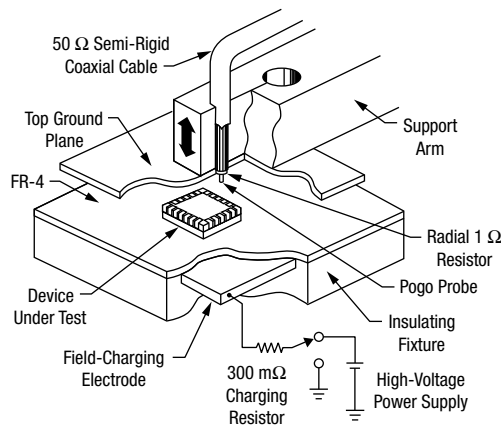

Figure 2. Field Induced CDM Simulator.
Three samples are submitted to CDM test for each voltage level. The device’s potential is raised by applying a test voltage to the field charge electrode, see Figure 2 (Field Induced CDM Simulator). Five positive and negative discharges are applied to each pin, allowing enough time between discharges for the device to reach the full test voltage. Test voltages applied start at the 100 V level and are increased by 50 V increments. The device passes a voltage level when all three (3) samples stressed at this level pass. The device is tested for full static and dynamic parameters.